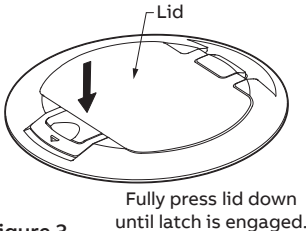

Figure 3
- a. Press lid down until latch is engaged. (Figure 3)